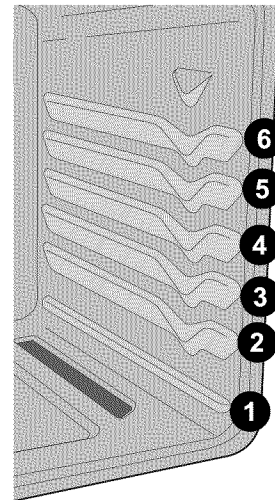

Figure 18: Oven rack positions
- For best results when baking cakes or cookies using two oven racks, place racks in positions 3 and 5 (See Figure 18).